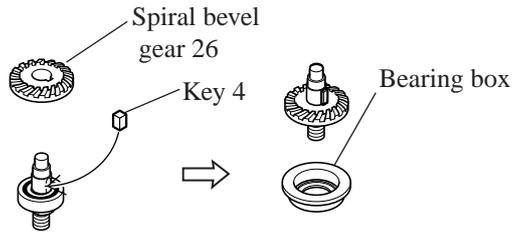

Fig. 12
(4) Mount key 4 to the groove of spindle, and mount helical gear 26 to the shaft with your hand. See Fig. 12.